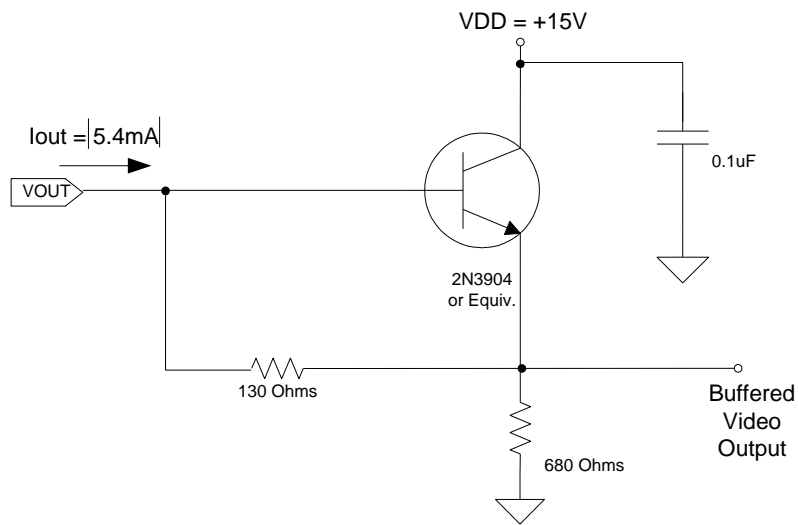

Figure 4: Recommended Output Structure Load Diagram
Charge presented to the floating diffusion (FD) is converted into a voltage and is current amplified in order to drive off-chip loads. The resulting voltage change seen at the output is linearly related to the amount of charge placed on the FD. Once the signal has been sampled by the system electronics, the reset gate (RG) is clocked to remove the signal and FD is reset to the potential applied by reset drain (RD). Increased signal at the floating diffusion reduces the voltage seen at the output pin. To activate the output structure, an off-chip load must be added to the VOUT pin of the device. See Figure 4.